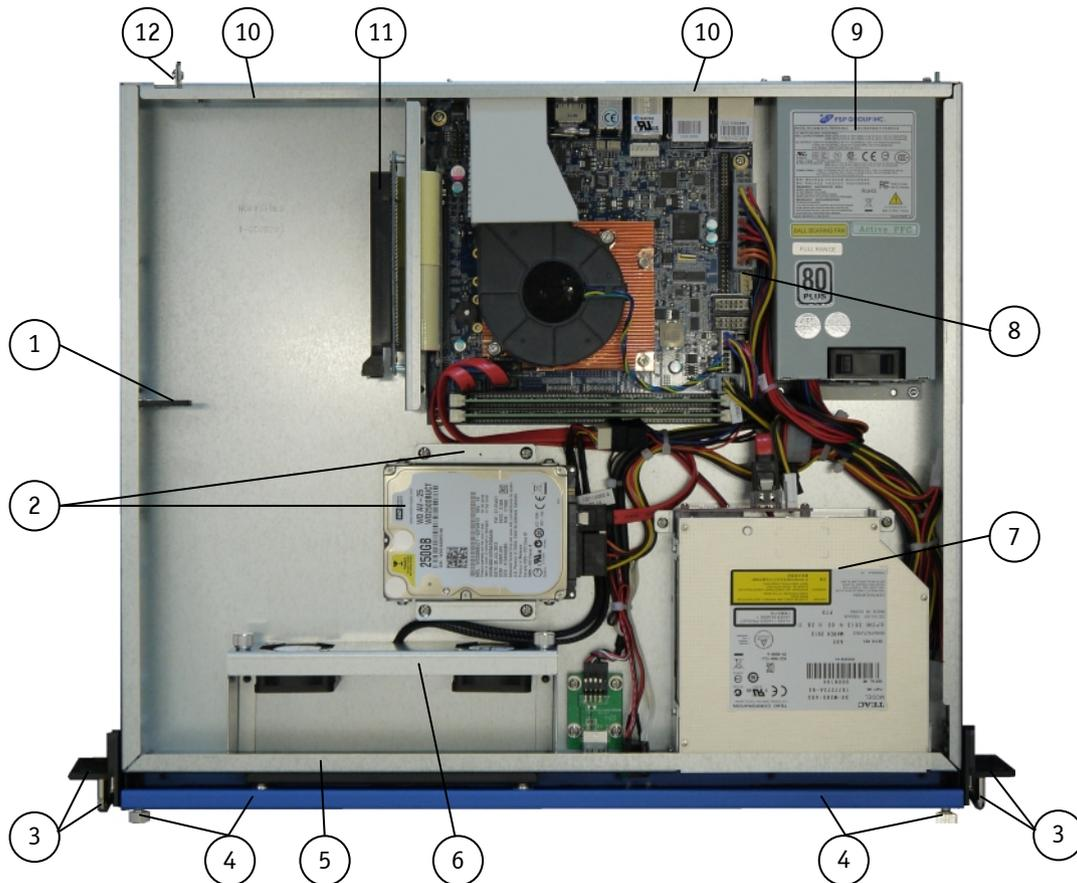
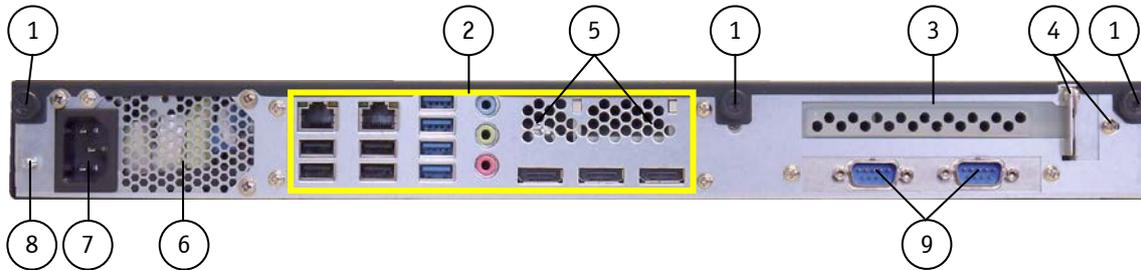
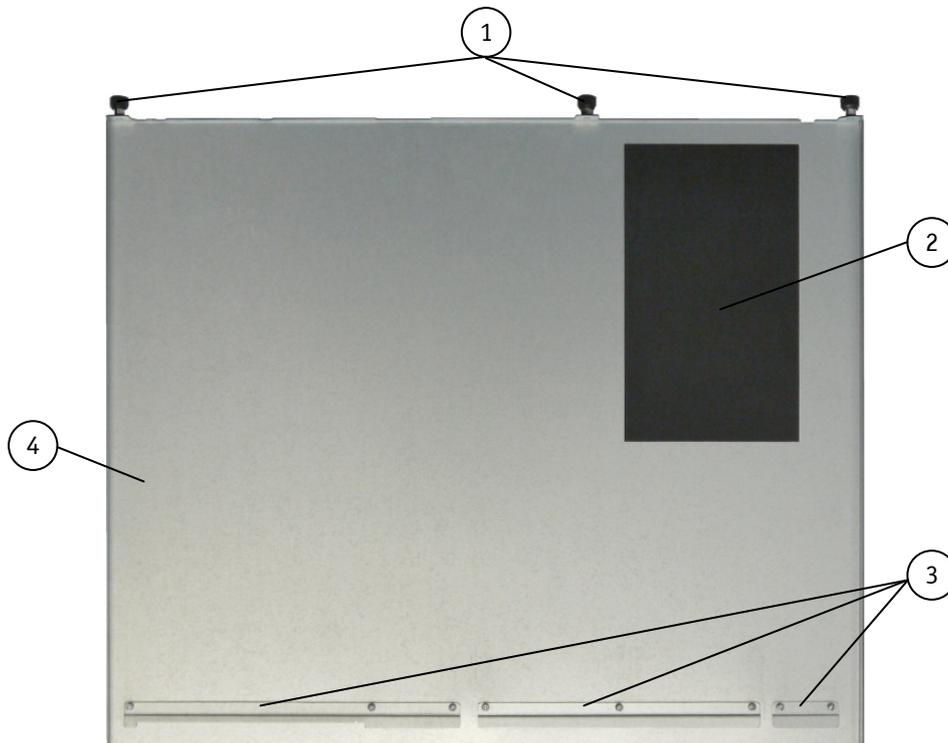

Fig. 5: KISS 1U Short V2 platform, rackmount version, opened
Fig. 10: Rear side of the KISS 1U Short V2 with KTQM87/mITX motherboard
Fig. 12: Inside of the cover with fixing brackets
Legend for Fig. 10:
The power supply unit (PSU) is placed on the rear side of the KISS 1U Short V2 platform (Fig. 10, pos. 6). For information about the integrated power supply unit (PSU) and the rated voltage of your system, refer to the type label attached on the right side of the unit.
The cover will be fixed to the chassis using three fixing brackets (Fig. 12, pos. 3) and three captive knurled screws (Fig. 12, pos. 1). The fixing brackets are located on the inside of the cover at the front edge. When closing the cover, make sure that the fixing brackets (Fig. 12, pos. 3) will be inserted properly into the corresponding retaining brackets for the cover (Fig. 5, pos. 10) on the rear side of the chassis.
3. Pull the cover back (to remove the cover fixing brackets (see Fig. 12, pos.3) from the retaining brackets Fig. 5, pos. 6).
12. Close the device and secure the cover with the fastening screws (Fig. 10, Fig. 12, pos. 1) on the rear side.
When closing the cover, make sure that the cover fixing brackets (Fig. 12, pos. 3) slide into the corresponding retaining brackets (Fig. 5, pos. 6) of the chassis.